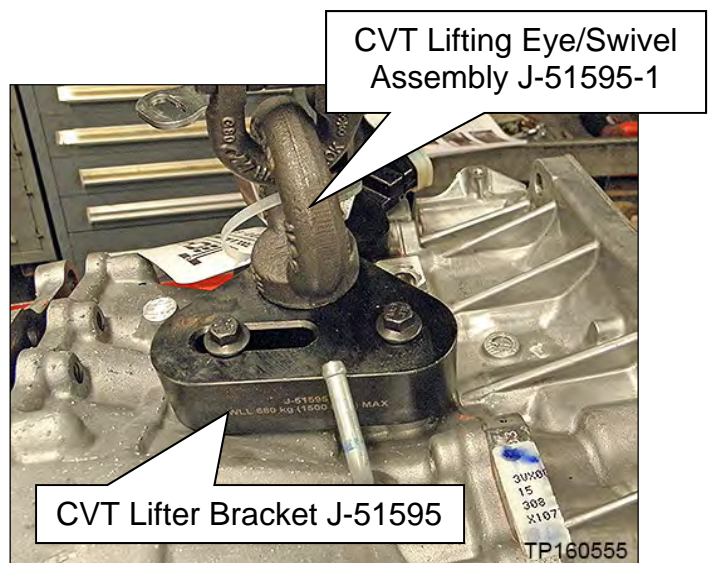

Figure 72
- CVT lifter bracket J-51595 and CVT Lifting Eye/Swivel Assembly J-51595-1 can be used for this step (Figure 72).